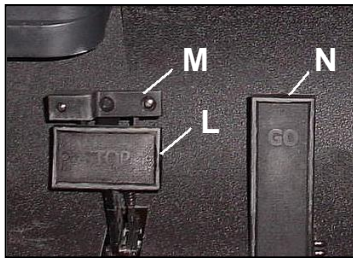
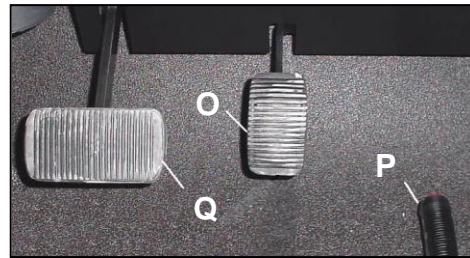

Figure 3.3.2
Figure 3.3.3
For vehicles with mechanical brakes, Figure 3.3.2 shows the brake pedal (L) and the parking brake lock (M). The parking brake lock (M) is a bar located at the top of the brake pedal. To lock foot brake for parking, depress pedal and bar at the same time. Always apply parking brake when leaving the vehicle. It remains applied until automatically released by depressing the accelerator pedal (N). Parking brake can also be released by momentarily depressing the brake pedal, and then releasing it.
Figure 3.3.3 shows the brake pedal (Q) and parking brake (P) for vehicles with hydraulic brakes. These vehicles will have a hand parking brake located either on the floor as shown in Figure 3.3.3 or if equipped with bucket seats, located between the seats. To lock the brake, pull the brake lever upward. To release, depress the button at the end of the handle and let the handle down to the original position. Always apply parking brake when leaving the vehicle. Pressing the brake pedal activates brake lights and will slow or stop the vehicle.
Figure 3.3.2 shows the accelerator pedal (N) for vehicles with mechanical brakes. Figure 3.3.3 shows the accelerator pedal (O) for vehicles with hydraulic brakes. They control the speed of the vehicle in the same manner as a conventional automobile. The pedal should be fully released when changing directions.